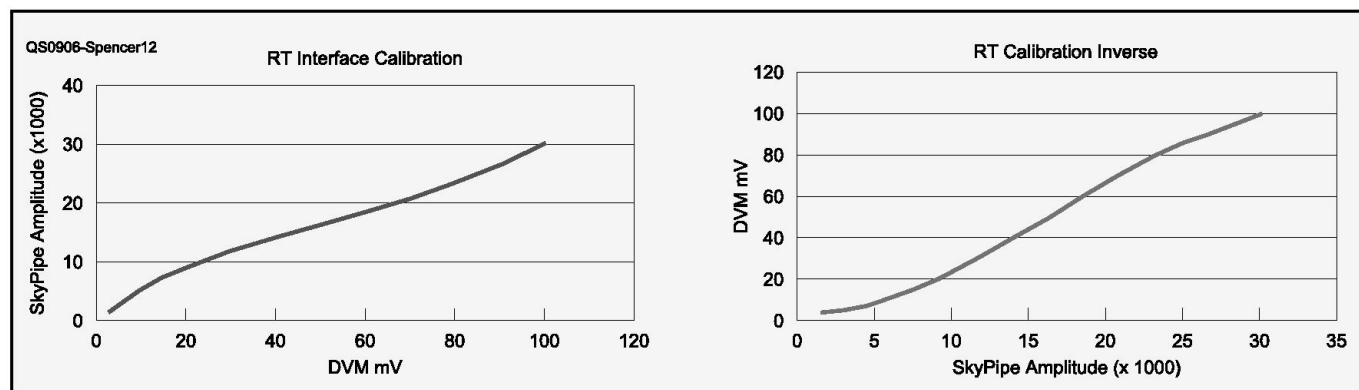

Figure 14 — Sequential drift scans. Note the time offsets between the peaks.
A good second activity is to do two drift scans of the night sky on two consecutive nights (beginning the scans at the same time each night) using the same fixed antenna azimuth (AZ) and elevation (EL). Figure 14 shows two such drift scans. Although at first glance they may not seem similar, there are some interesting features that are pointed to by arrows. If you compare the time that these two peaks occurred, the time difference is about 4.5 minutes. This shift is the result of the distance the Earth had traveled during the 24 hours between collections.